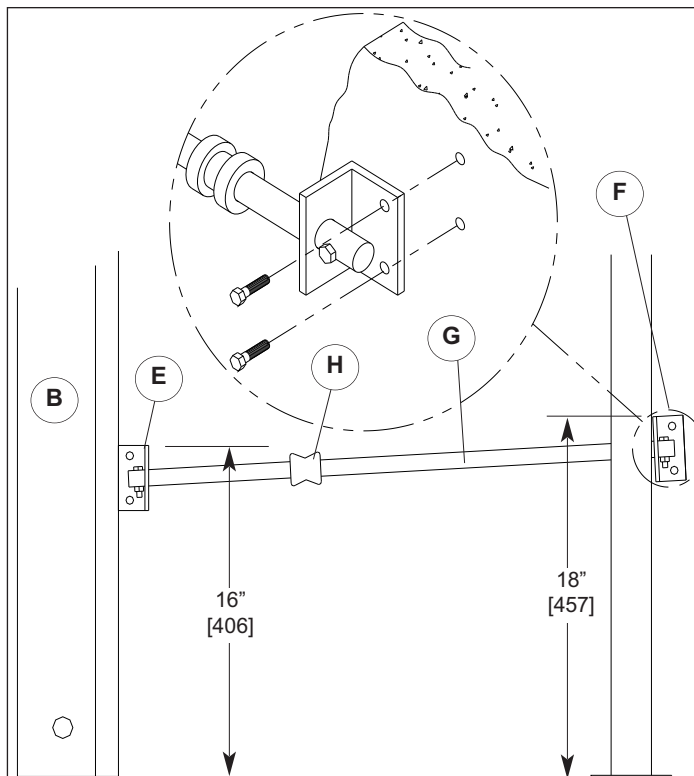

Figure 13.2
5. Fasten the inside slide rod bracket (E) to the wall 16" [406] from the floor to the top of the bracket with the edge of the angle against the aluminum retainer, **Figure 13.2**.
6. Fasten the outside slide rod bracket (F) 18" [457] from the floor to the top of the bracket and past the support post.
7. Slide rod (G), Collar (H).